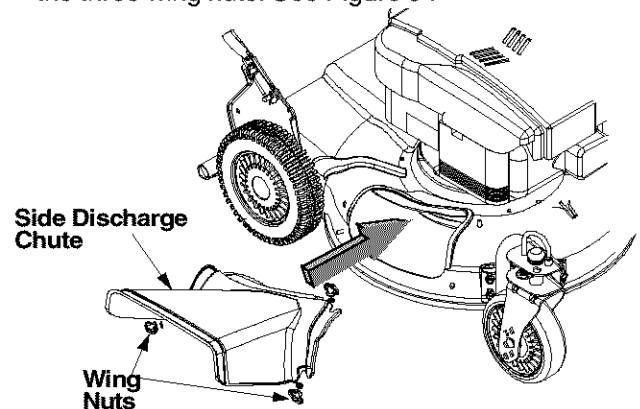

Figure 9
- Attach side discharge chute to unit and secure with the three wing nuts. See Figure 9 .